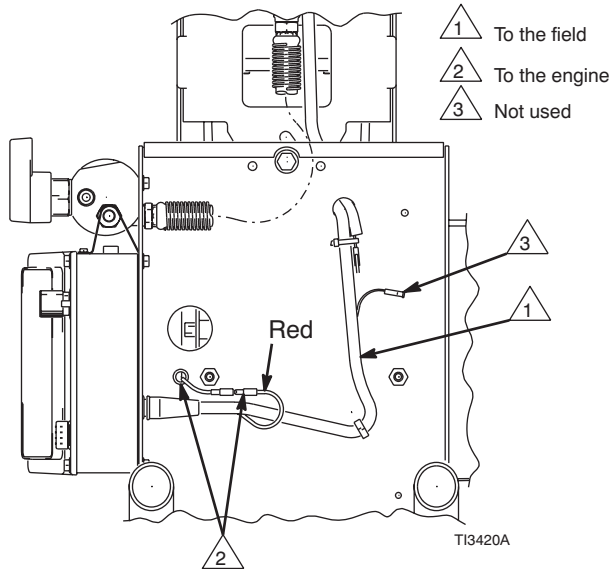

FIG. 13
2. FIG. 13. Disconnect all necessary wiring.
3. FIG. 13. Connect all necessary wiring.